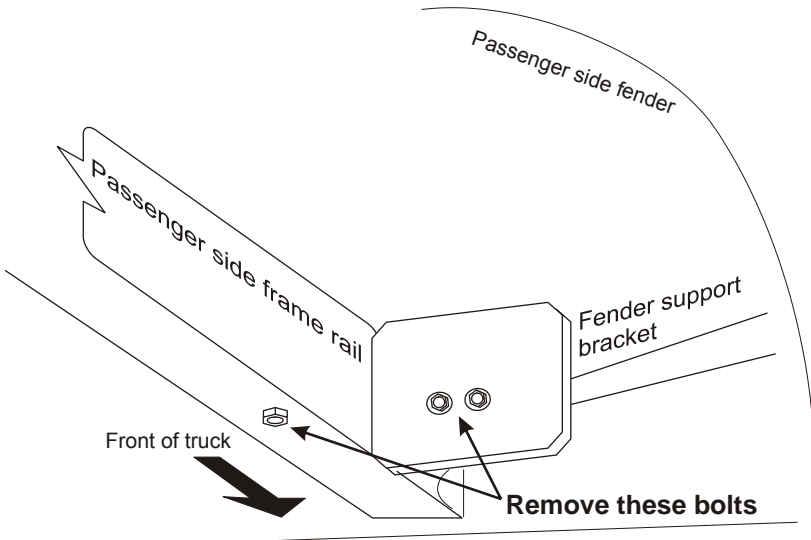

Figure 1.3
- Remove both OEM fasteners from the fender support bracket on the passenger side of the truck (Figure 1.3). On four-wheel drive trucks, remove the hex head bolt on the bottom of the frame that holds the tow hook in place. Some trucks may have a hole in the frame where the tow hook would be attached.